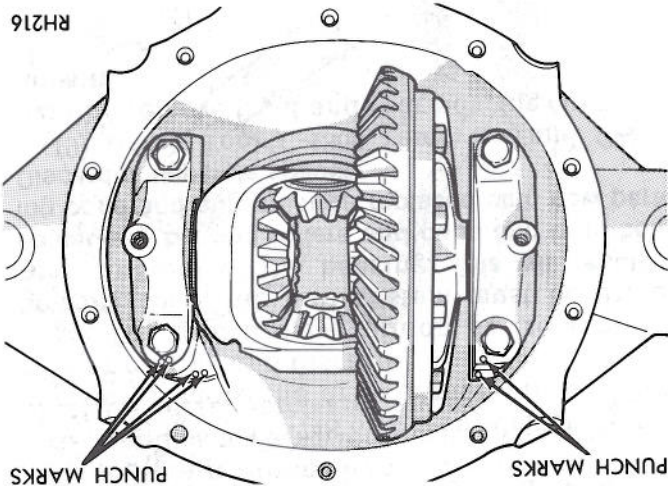

Fig. 11—Marking Bearing Caps and Housing for Proper Identification (Typical)
(11) Measure drive gear runout by turning drive gear several complete revolutions and reading dial indicator. Mark drive gear and differential case at point of maximum runout. The marking of differential case will be very useful later in checking differential case runout. Total indicator reading should be no more than .005 inch. If runout exceeds .005 inch the differential case may be damaged. A test for case runout will be described later.
(12) Mark axle housing and differential bearing caps for proper relocation during reassembly (Fig. 11).
(13) Remove adjuster lock from each bearing cap. Loosen but do not remove bearing caps.